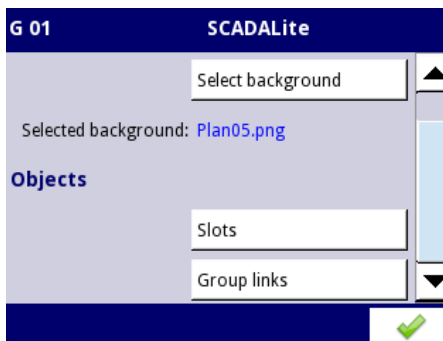

Fig. 7.145. The view of **SCADALite** parameter
- **Slots** – this button refers to the configuration of the individual slots. View the submenu presented in **Fig. 7.145**. It allows the user to access the parameters determining the way of presenting results: